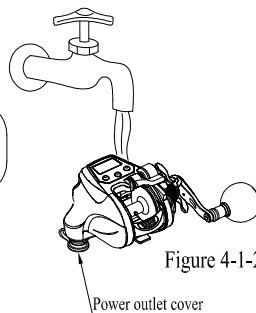

Figure 4-1-2
2. Rinse the detergent with tap water, especially on fishing lines (Figure 4-1-2).